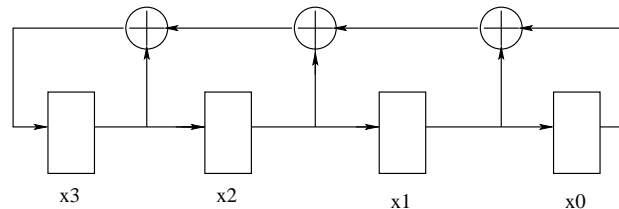

Figure 8: A standard linear feedback shift register
- (e) (**2 points**) Consider the standard LFSR shown in Figure 8 below. Find its non trivial initial state that will cause the LFSR to cycle after visiting 5 distinct states. Show all the states that will result when this LFSR is used with the initial state found by you.